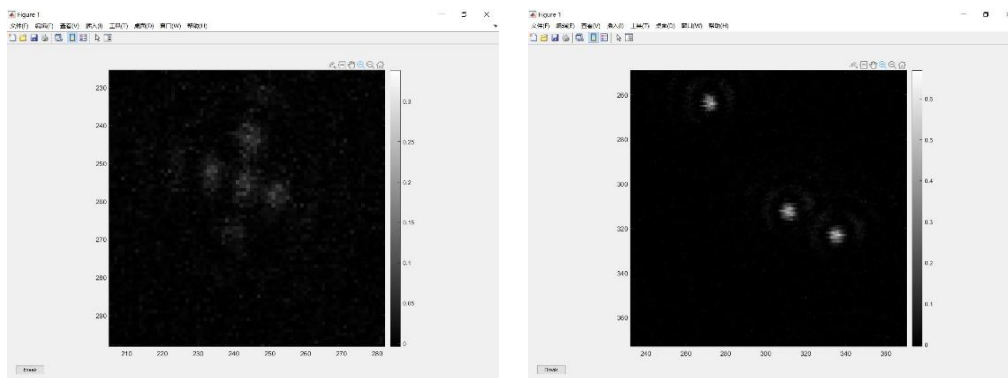

Figure 4.5 Representative images showing blurred (left) and sharp spots (right).
Step 42. Slightly adjust the XY translation stage (#32) and 6-axis kinematic mount (#31) until sharp spots (point spread functions) could be observed across the field of view (Figure 4.5).